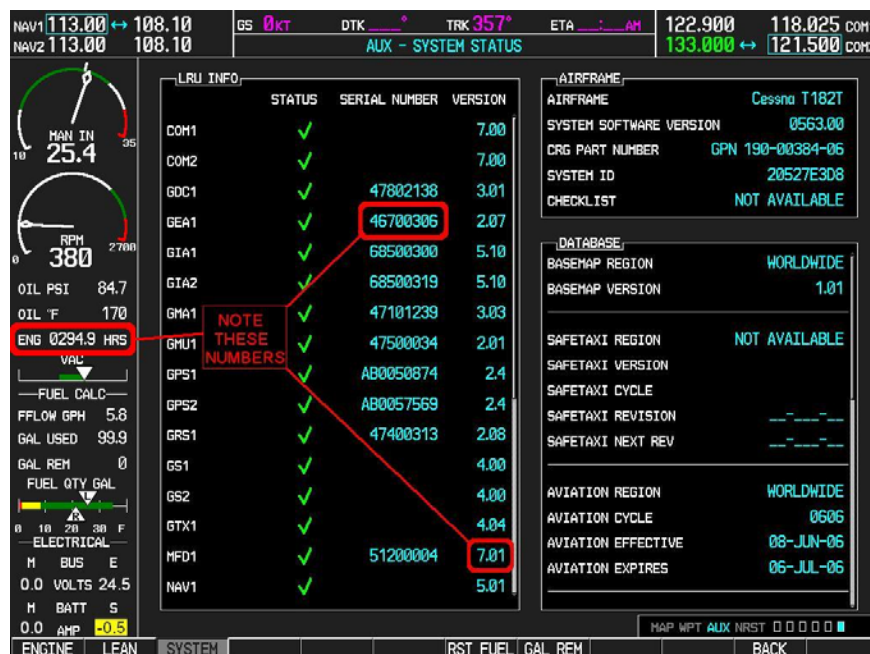

Figure 5-37. AUX – System Status Page (MFD)
22. After the altitude calibrations are complete, the 'Program Calibration to Unit?' screen (Figure 5-37) appears. Click 'OK' to program the new calibration to the GDC 74B unit.